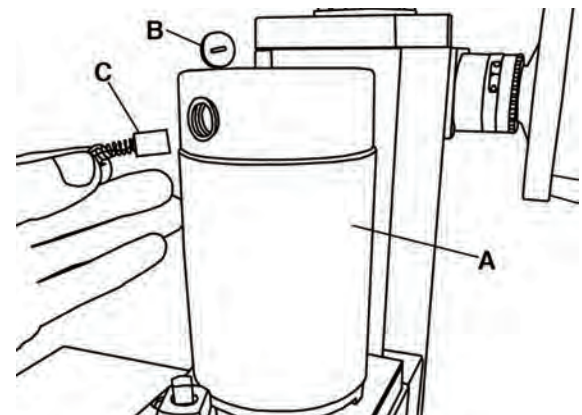

FIGURE 24
To inspect and replace the motor brushes (Fig.24):
- 2) Unscrew one of the brush caps (B) Fig.24 to expose the brush assembly.
- 3) Remove the old brush assembly (C). If the brush is worn down to less than 1/4" (6mm) then replace it with a new one (replace both carbon brushes). Otherwise re-install the brush.
- 5) Repeat for second brush assembly on the other side of the motor (A).